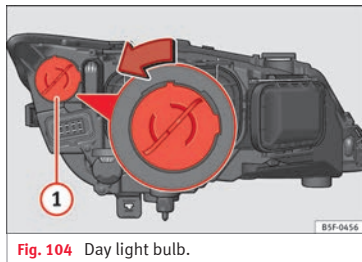

Fig. 104 Day light bulb.
- Turn the bulb holder »» Fig. 104 ① to the left and pull.